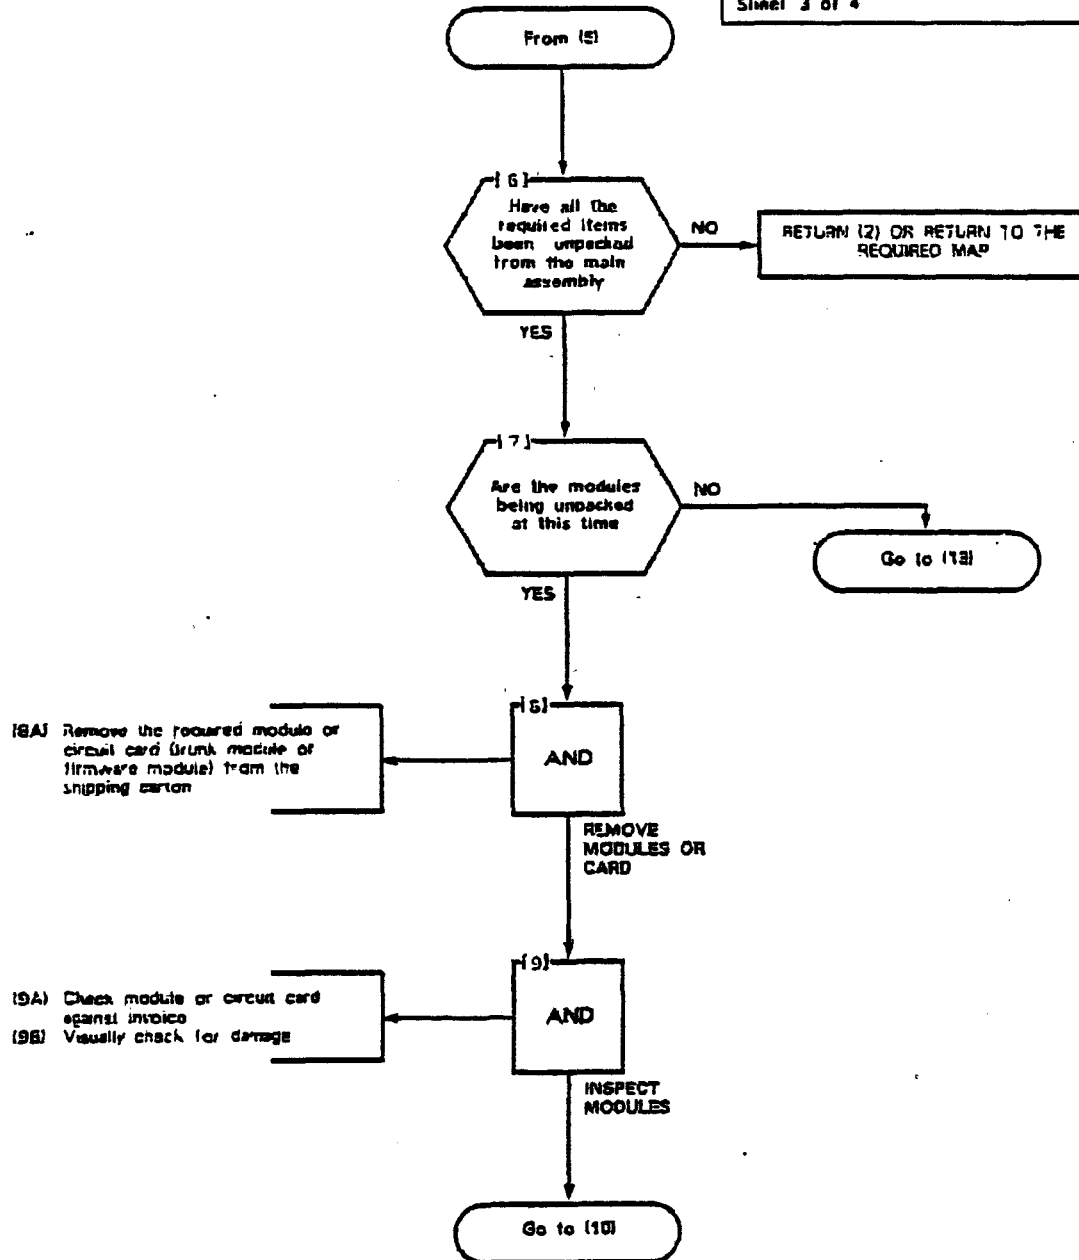

Fig. A1-1 Typical MAP Page (Example Only)
**A1.03** A typical example of a MAP is shown in Fig. A1-1, with levels (one) and (two) detailed.